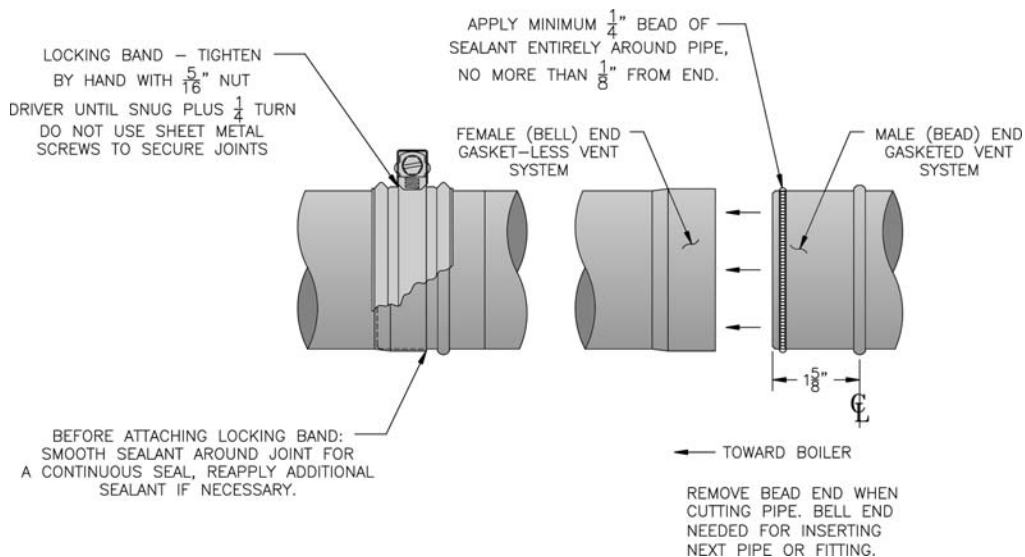

Figure 3D: Burnham Gasket-Less Female and Gasketed Male Vent Joint Detail
- 2. Procedure for joining the female end of Burnham Gasket-Less Vent with the male end of Burnham Gasketed Vent. See Figure 3D.